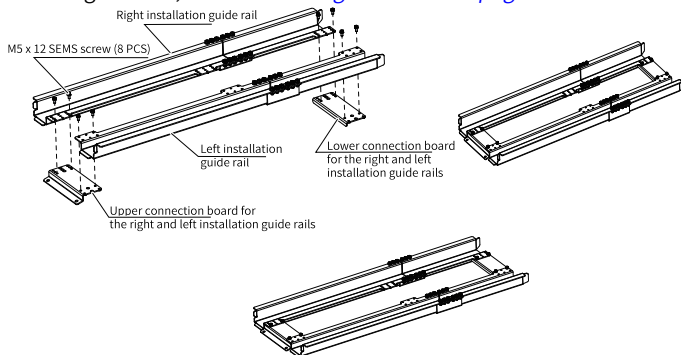

Figure 2-22 Guide rail assembling
a. Assemble the guide rail, as shown in "Figure 2-22 " on page 45 .